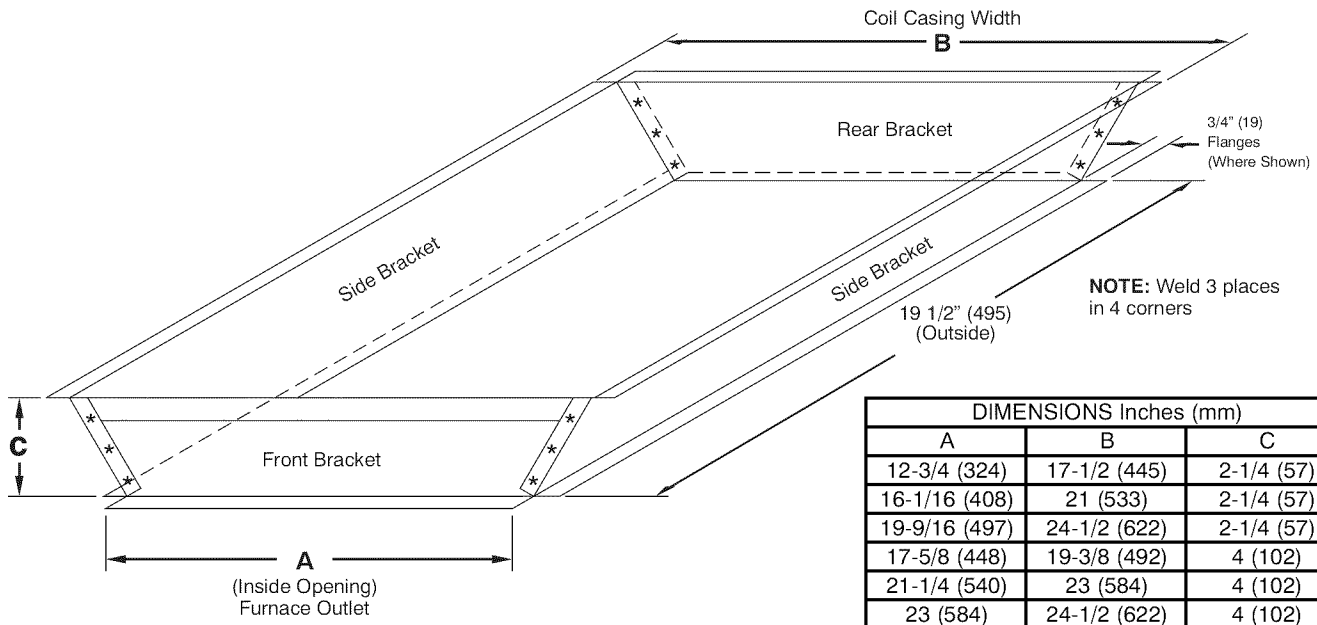

Figure 5 – Recommended Transition
STANDARD MODEL COILS APPLIED CENTERED OVER NARROW FURNACE REQUIRE A MINIMUM TRANSITION AS SPECIFIED IN Figure 5.
1. Prepare transition, following recommended transition drawing. See Figure 5.
NOTE: If coil is not being installed in the standard orientation (front of coil matching front of furnace) then coil must be raised above furnace as specified in Figure 5.
3. Coils that under-hang (narrower than furnace) must have a field-fabricated transition between furnace and N-coil casing as specified in Figure 5.